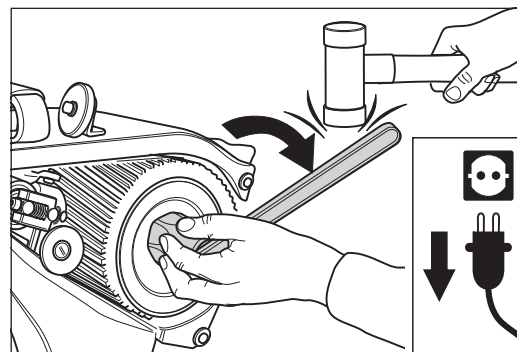

Fig. 87 Release the drum nut **clockwise (left-hand thread)**, if necessary by knocking gently with a soft hammer.
- 7 Open the drum nut by turning the box wrench (see tool kit) **clockwise (left-hand thread)** and unscrew the drum nut (fig. 87)!